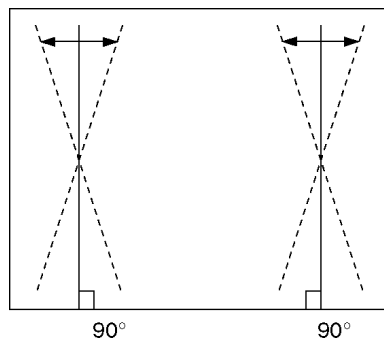

Fig. 5
4. Adjust the vertical line to straight line of bothside vertical line in Fig. 5 by Trapezoid (50p / 4:3).
4. Adjust the vertical line to straight line of bothside vertical line in Fig. 5 by Trapezoid (60p / 4:3).